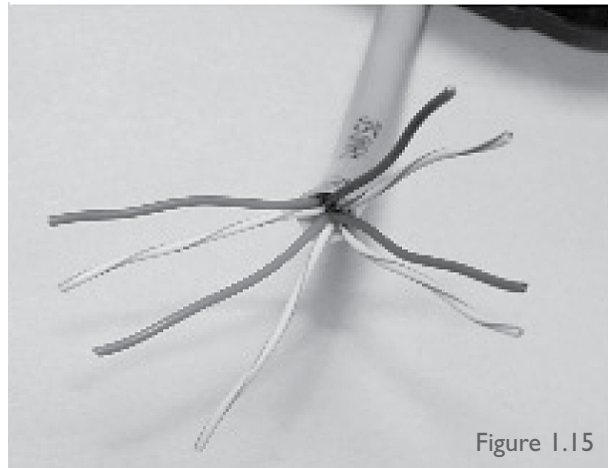

Figure I.15
- e) Untwist all four pairs and straighten/smooth out the kinks (as shown in Figure I.15).